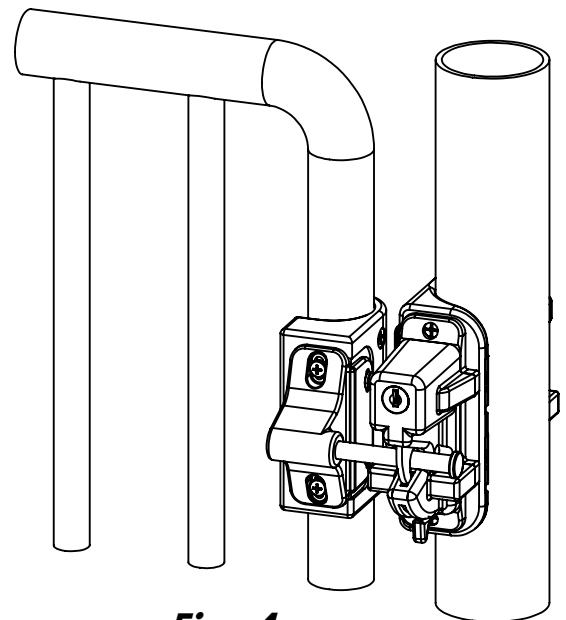

Fig. 4
STEP 3 - Ensure Proper Installation (Fig. 4)